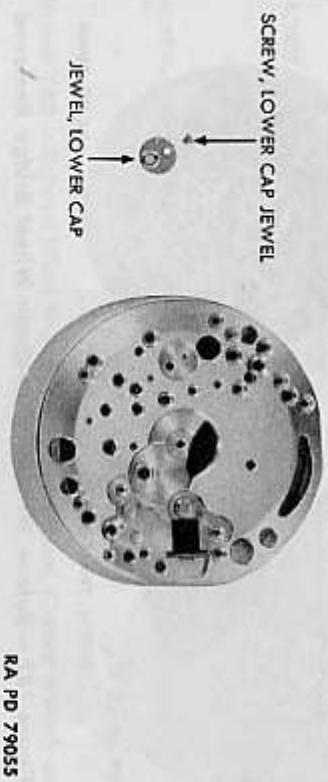

Figure 184 — Bulova Wrist Watch — Lower Cap Jewel Removed
a. Replace Lower End Stone Cap Jewel. Place the lower end stone cap jewel in its place on pillar plate and secure it with end stone cap jewel screws (fig. 184).